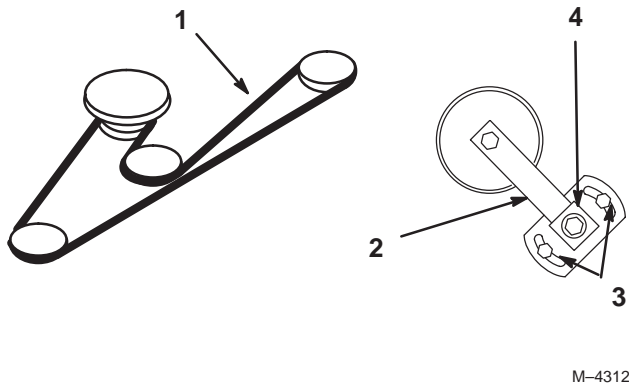

Figure 66
3. Loosen two nuts securing idler plate and move the idler arm to relieve belt tension on the idler pulley, then remove the worn deck belt (Fig. 66).
4. Install the new deck belt around the spindle pulleys, belt guide, the idler pulley, and in the lower groove of the center spindle pulley (Fig. 66).